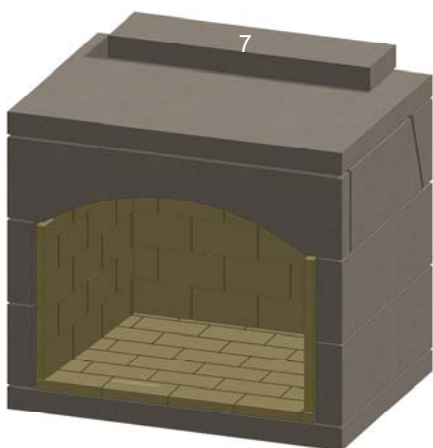

Figure 19. Oven Base Plate Extension
M. Install the oven base plate extension (7). Mortar the piece to the top plate of the firebox (1), aligning it with the back edge of the plate, and centering it from side to side. See Figure 19.